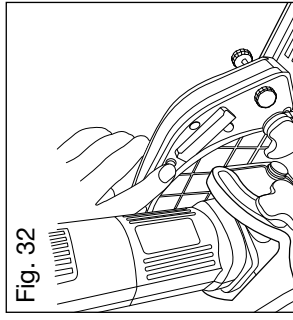

Fig. 32
15. Laser-battery-compartment release button (Fig. 32)
1. Press the gray button to release the battery compartment on the back blade guard (Fig. 32).